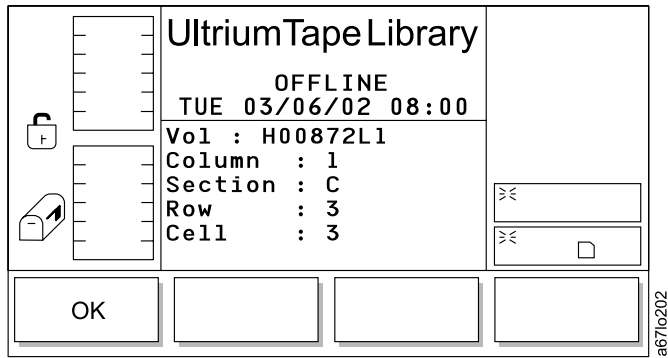

Figure 94. Media Information Dialog
- If **Select** is selected, the Media Information Dialog displays (see Figure 94 on page 98).